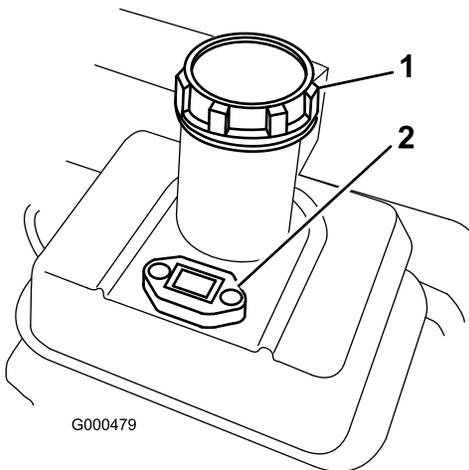

Figure 21
1. Clean around fuel tank cap and remove cap from tank (Figure 21). Using unleaded gasoline, fill fuel tank no higher than to bottom of filter screen. Do not overfill.